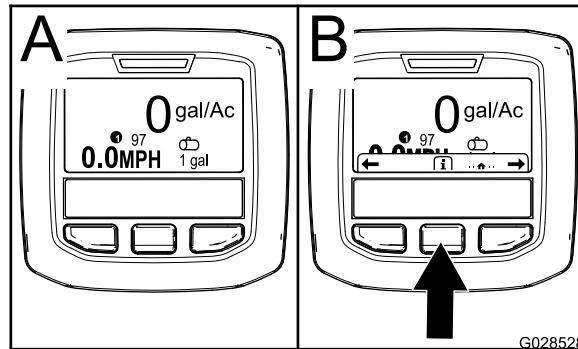

Figure 60
2. After approximately 15 seconds, the home screen will appear, press the center selection button to display the information context (Figure 60).